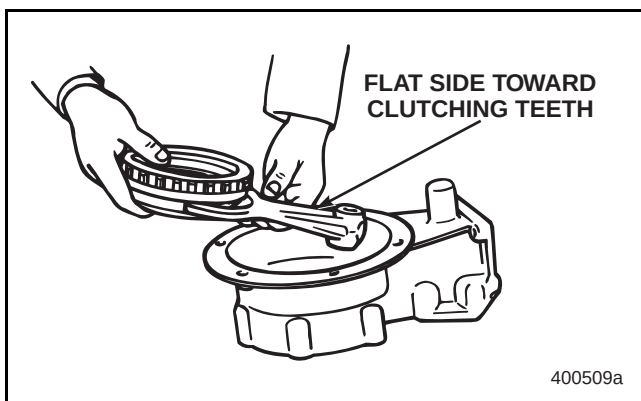

Figure 153 — Inserting the Fork and Clutch
7. Insert the fork and clutch into the housing. Do this by installing the fork into the clutch groove and then angling them as a unit into position as shown in Figure 153. Make sure that the flat side of the fork faces the clutching teeth.